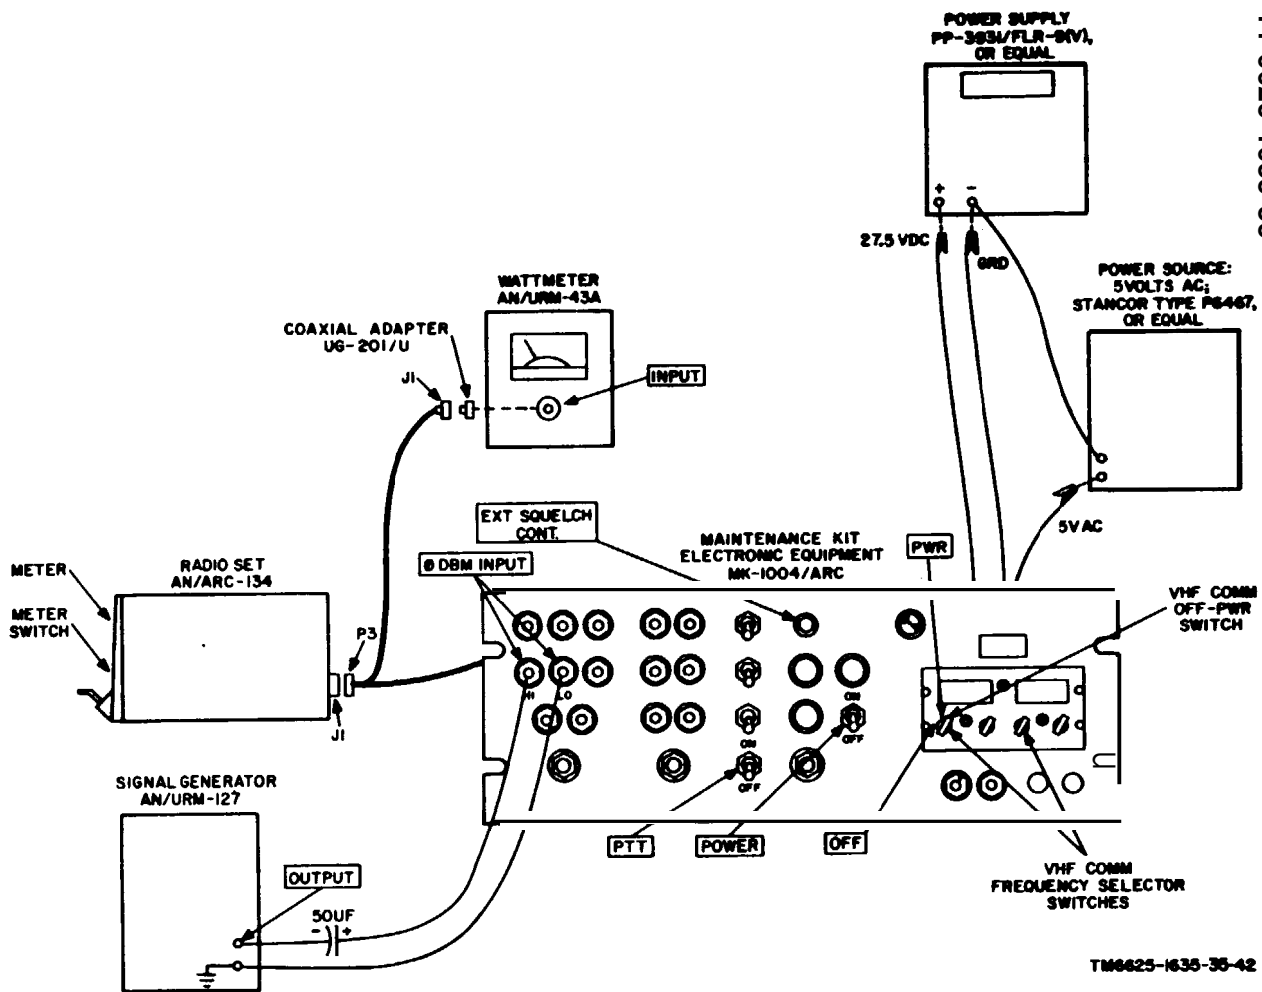

Figure 4-6. Modulation check, 0 DBM INPUT circuit, test setup, unmodified maintenance kit.
- (1) Radio Set AN/ARC-134.
- (2) Power supply.
- (3) Ac power source (unmodified equipment).
- (4) Wattmeter, Radio Frequency AN/URM-43A.
(5) Generator, Signal AN/URM-127.
(6) Adapter.
(7) Capacitor, 50 μ f, 25-vdc.
b. *Test Connection and Conditions.* Connect the equipment as shown in figure 4-6 or 4-6.1. On modified equipment, place the C-1611D/AIC PVT-INT switch in position 3, the RECEIVERS 3 switch ON, all other RECEIVERS switches off, and position the VOL control as required. These settings must be maintained during the test.